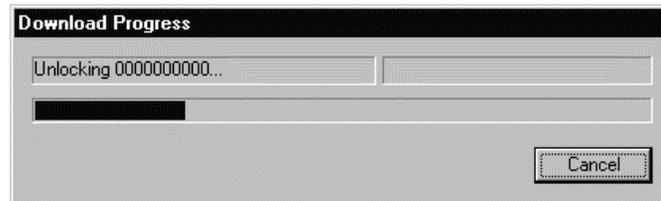

Figure F-4 Vxcom Progress Window
- 10) **Vxcom** begins looking for the LaserLite Pro or LaserLite Mx. Press any key on the data collector to begin the transfer. A window opens (Figure F-4) and reports the progress of the transfer.